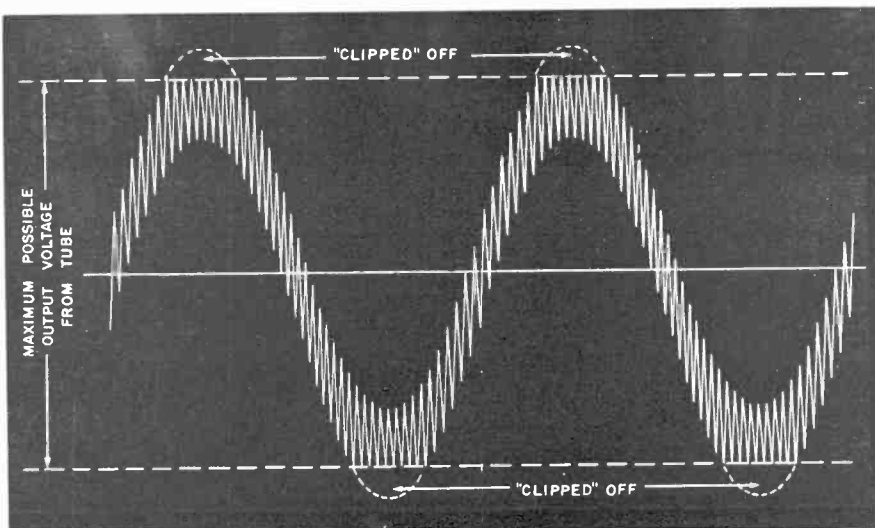
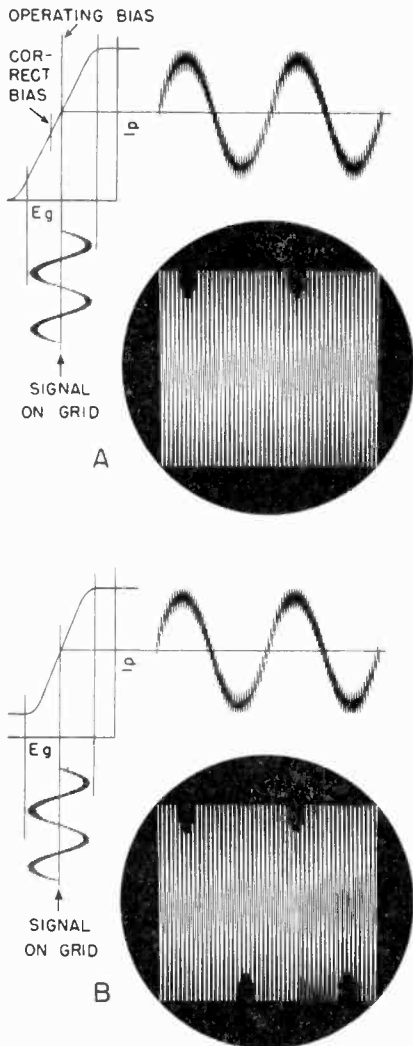
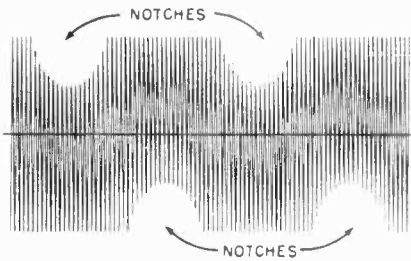
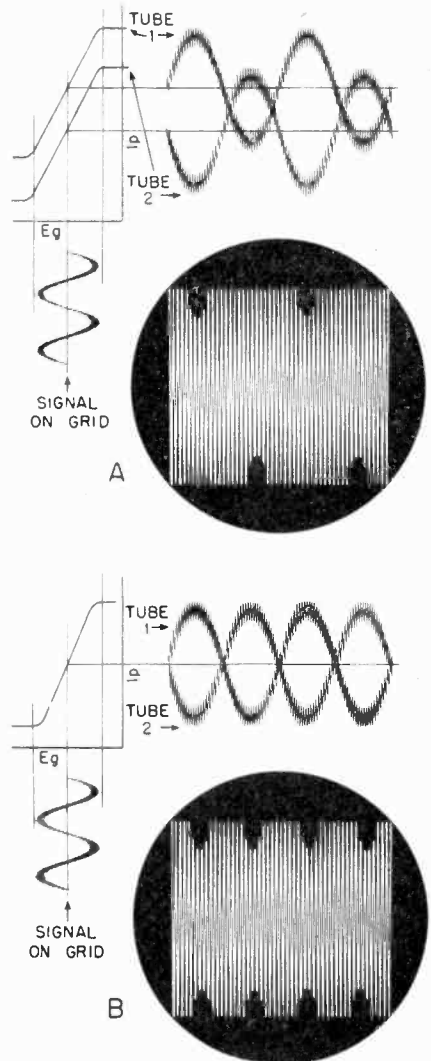

Fig. 3. Test signal after passing through amplifier, with distortion resulting from overload. Note clipping of fringe on peaks of 60-cps wave.
Fig. 6. Plate-current vs grid-voltage curves, and type of indications resulting from single tube with (A) insufficient bias, and (B) excessive input signal.
Fig. 4. Distorted output signal with 60-cps frequency filtered out.
Fig. 7. Plate-current vs grid-voltage curves, and type of indications resulting from push-pull tubes with (A) insufficient bias, and (B) excessive input signal.
To illustrate the action of an amplifier upon the test signal, Fig. 3 shows the output signal resulting from a condition of amplifier overload. The dotted lines represent the maximum signal level that can be passed through an amplifier without distortion. As the amplitude of the test signal is increased, the limits begin to flatten off the peaks of the 5000-cps "fringe" on the 60-cps wave. In Fig. 4, the 5000-cps wave has been straightened out by the filtering pro-
cess which removes the 60-cps wave, but the remaining signal still has the notches caused by the flattening of the fringe on the peaks of the test signal, as shown in Fig. 3. This is the sort of signal that is applied to the 'scope in the visual method, and no further operations on the signal are necessary. However, when measuring intermodulation distortion, the 5000-cps signal is rectified, and the resultant modulation impressed upon it is measured as a percentage of the signal amplitude.
The advantage of the 'scope as an indicator, for qualitative rather than quantitative work, is fairly well shown by comparing Figs. 4 and 5. The notches in Fig. 4 are relatively deep, and readily visible; yet when the A-C component of the modulation is actually *measured*, the resultant is a very small percentage. For 'scope use, it is a definite advantage to have an indication of this sort, and the
Figure 6 shows the effects obtained with a single tube amplifier stage to which the test signal is applied. In (A), the operating point for the grid bias is less than normal. By applying the test signal to the grid of the tube, the developed plate signal indicates the flattening of the fringe, as in Fig. 3. Below this is shown the 5000-cps signal after the 60cps component has been removed by filters. When the 5000-cps signal is applied to the 'scope, the horizontal sweep is synchronized at 30 sweeps per second, which permits the portrayal of two complete cycles of the 60-cps wave. Returning to the 5000-cps signal, it will be noted that there are only two
In Fig. 7(A), the test signal is shown as applied to a push-pull stage which is operating at incorrect bias. The fringe is flattened on the positive peaks of both tubes, with a resultant pattern showing four notches, on alternate sides of the pattern, making it similar to Fig. 6(B). Figure 7(B) shows the pattern resulting from a push-pull stage operating with correct bias, but which has an excessive signal applied to the grids.
These are the basic patterns, but it must not be supposed that they are all the patterns which can be obtained. Various conditions exist in which combinations of the basic patterns will modify the resultant somewhat. A flat tube in one socket of a push-pull stage, with the other tube operating with insufficient bias will give notches as in Fig. 6(A) on both sides of the 5000-cps frequency band. However, the important thing to remember is that the circuits should be adjusted to obtain the maximum output with a fixed limit of notch depth.